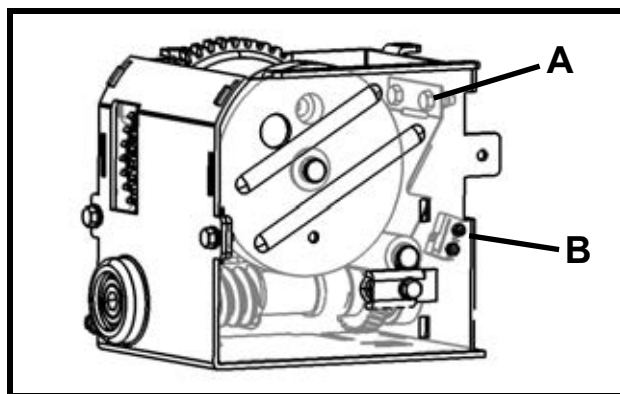

Fig. 25
- 4) Unscrew the two locknuts holding the limit switch plate (A) using an 8 mm socket tool and an 8 mm (5/16) wrench (see Fig. 25).
- 5) Unscrew the two nuts of the limit switch (B) using a 3/16 in or 5-mm socket (see Fig. 25).